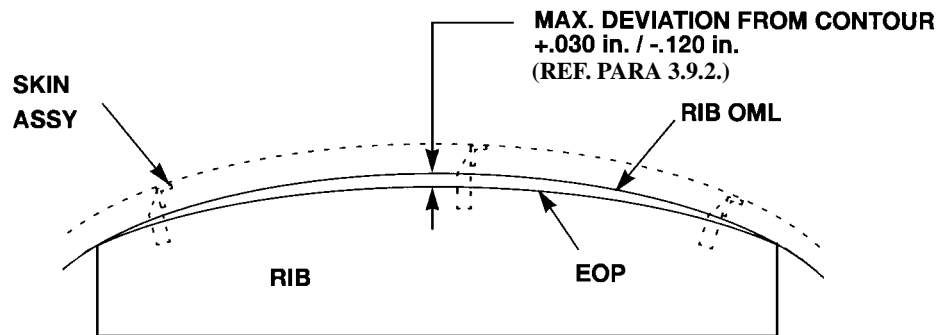

FIGURE 9: CONTOUR TOLERANCE - Sheet Metal Ribs
3.9.2. Formed sheet metal ribs that are held by clips and do not contact the skin, may deviate from contour as shown in Figure 9.